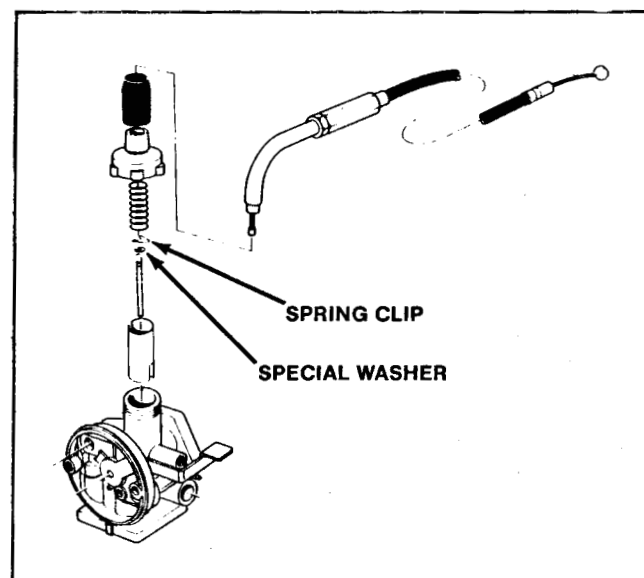

Figure 27
3. Install the special washer and spring clip as shown in Figure 27. Push the needle assembly into the throttle valve and line up the slots in the special washer and the throttle valve.